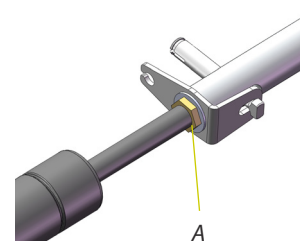

Fig 10
3. Use a wrench to release the gas spring (A, fig 10) and replace it. Be careful that all components remain in their correct orientations.